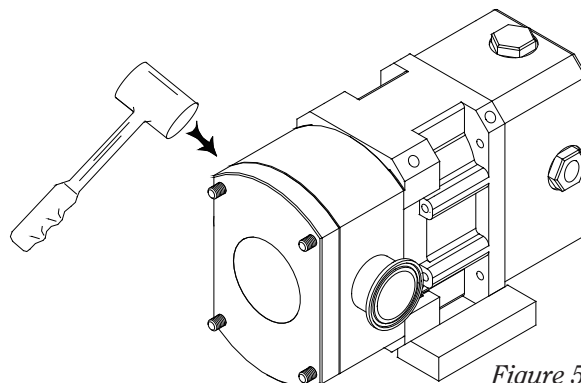

Figure 5
- b) Next remove the cover. If it is stuck, tap on the cover with a soft-faced hammer (*Figure 5*).